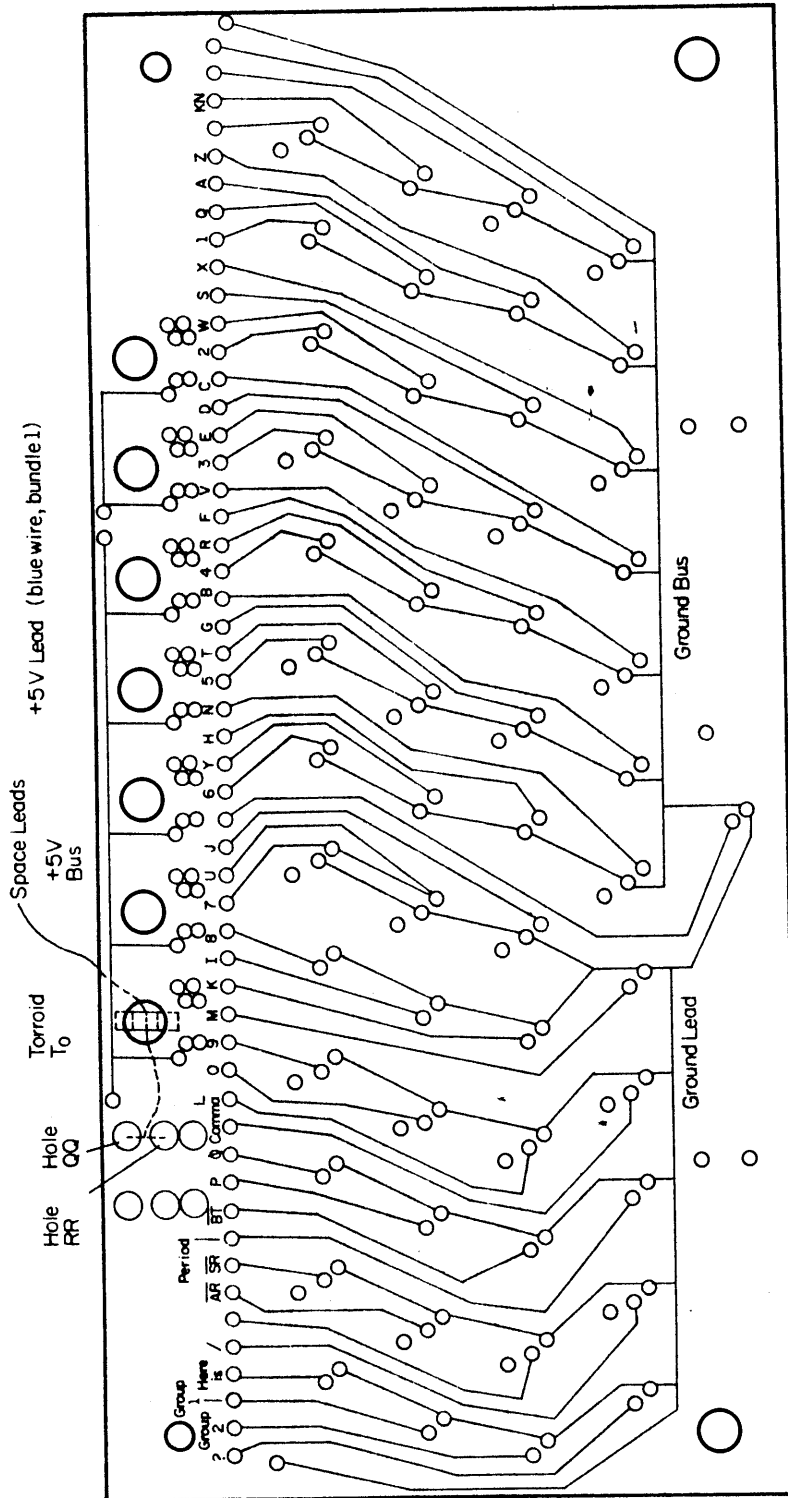

Fig. 1 MKB-1 Keypad Board (bottom view)
The wires listed in these tables will now be connected to the proper keyswitches. Figure 1 shows a bottom view of the MKB-1 keyswitch circuit board. Each keyswitch has two terminals. The grounded contacts of the switches are connected to a printed ground bus which runs along the front-panel edge of the circuit board. The "hot" side of the switches are connected by printed conductors to a row of pads near the toroid mounting holes.
the wire for that character to a keyswitch. Instead, route it to the top side of the keyswitch board, pass it through toroid T0, and solder it to the bundle of leads connected to hole QQ or RR, as shown in Figure 1. It will be necessary to remove the four screws holding the keyswitch board in place and lift the board gently away from the cabinet to gain access to the toroid wiring.
Now, referring to Figure 1, install the three wires which connect the activating keyswitches to the KB-ID1 inputs:
1. Connect the blue wire of bundle 1 to the +5 volt bus which runs along the top edge of the board near the toroids, as shown in Figure 1. Lay the tinned end of the wire along the printed bus and solder it in place.